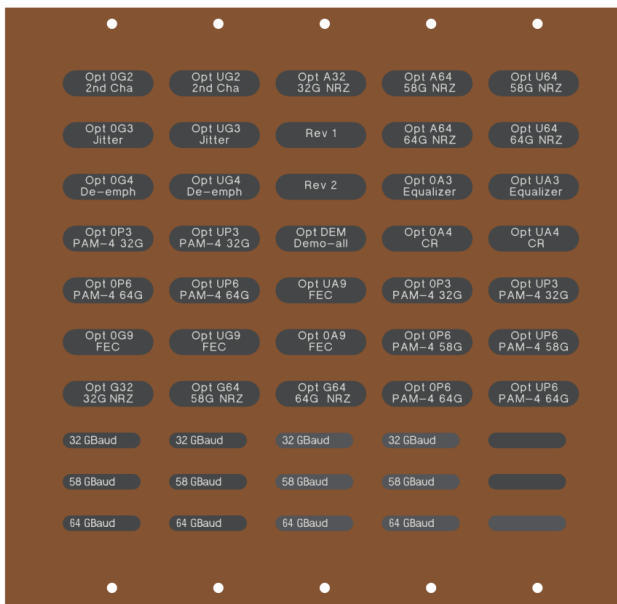

Figure 13 Option label sheet
Whenever the M8040A is upgraded with additional options, it is recommended that you affix the corresponding label(s) to the front panel of the module. The option labels provide a quick view of which options are installed in each module. Figure 13 on page -43 shows the option label sheet provided with your M8040A system.
- 1 Locate the option label sheet shown in Figure 13 on page -43.